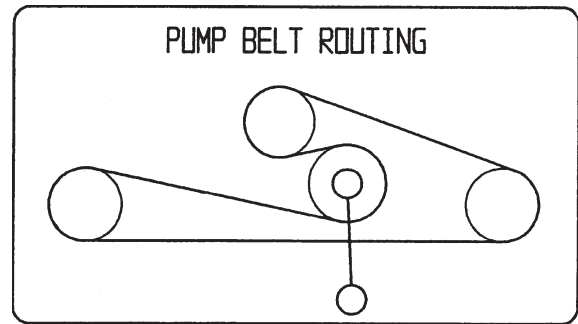

Figure 61
1. Pull the spring loaded idler down and remove traction belt from the engine and hydro pump pulleys (Fig. 61). Remove belt between pulleys.
2. Install new belt around engine and hydro pump pulleys (Fig. 61).
3. Pull spring loaded idler down and align below traction belt. Release pressure on spring loaded idler (Fig. 61).